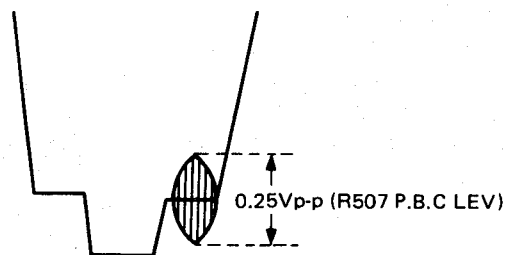

Figure 98.
2. Observe the output of TP-404 on oscilloscope (internal trigger) and adjust R507 (playback chroma level control) so that the burst level will be 0.25Vp-p as shown in Fig. 98.